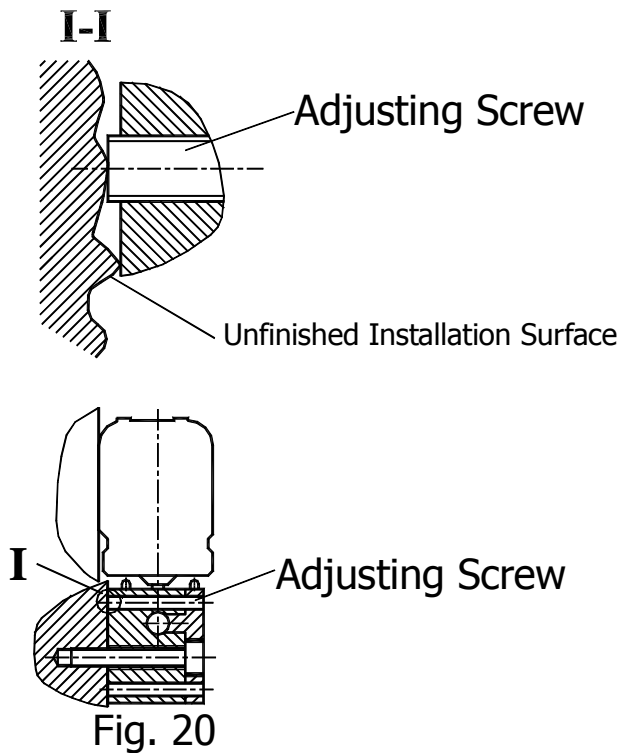

Fig. 21
Fig. 21 illustrates the converse installation of the reading head. The installation procedure is given below:
- e. Adjust the T frame plates till the relative position of the reading head to the scale assembly is as shown in Fig 21.